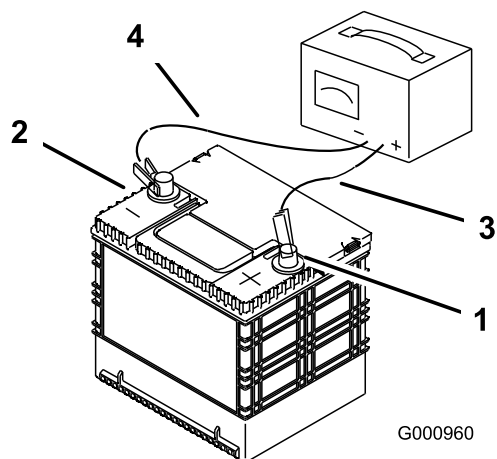

Figure 60
2. When the battery is fully charged, unplug the charger from the electrical outlet; then disconnect the charger leads from the battery posts (Figure 60).